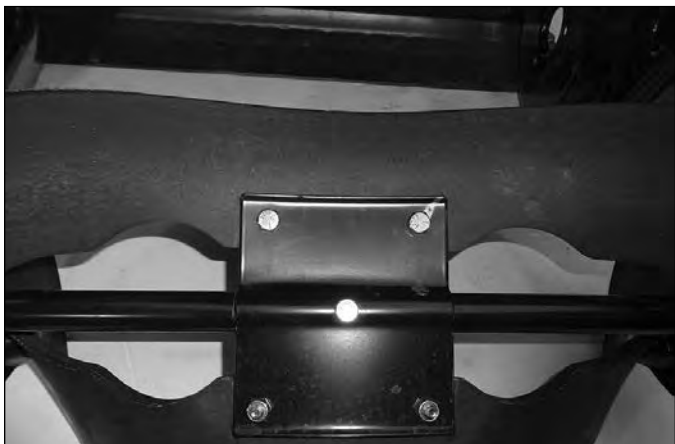

Fig. 024
2. Remove the two inner bolts holding the paddle to the rotor (A) (Fig. 024).